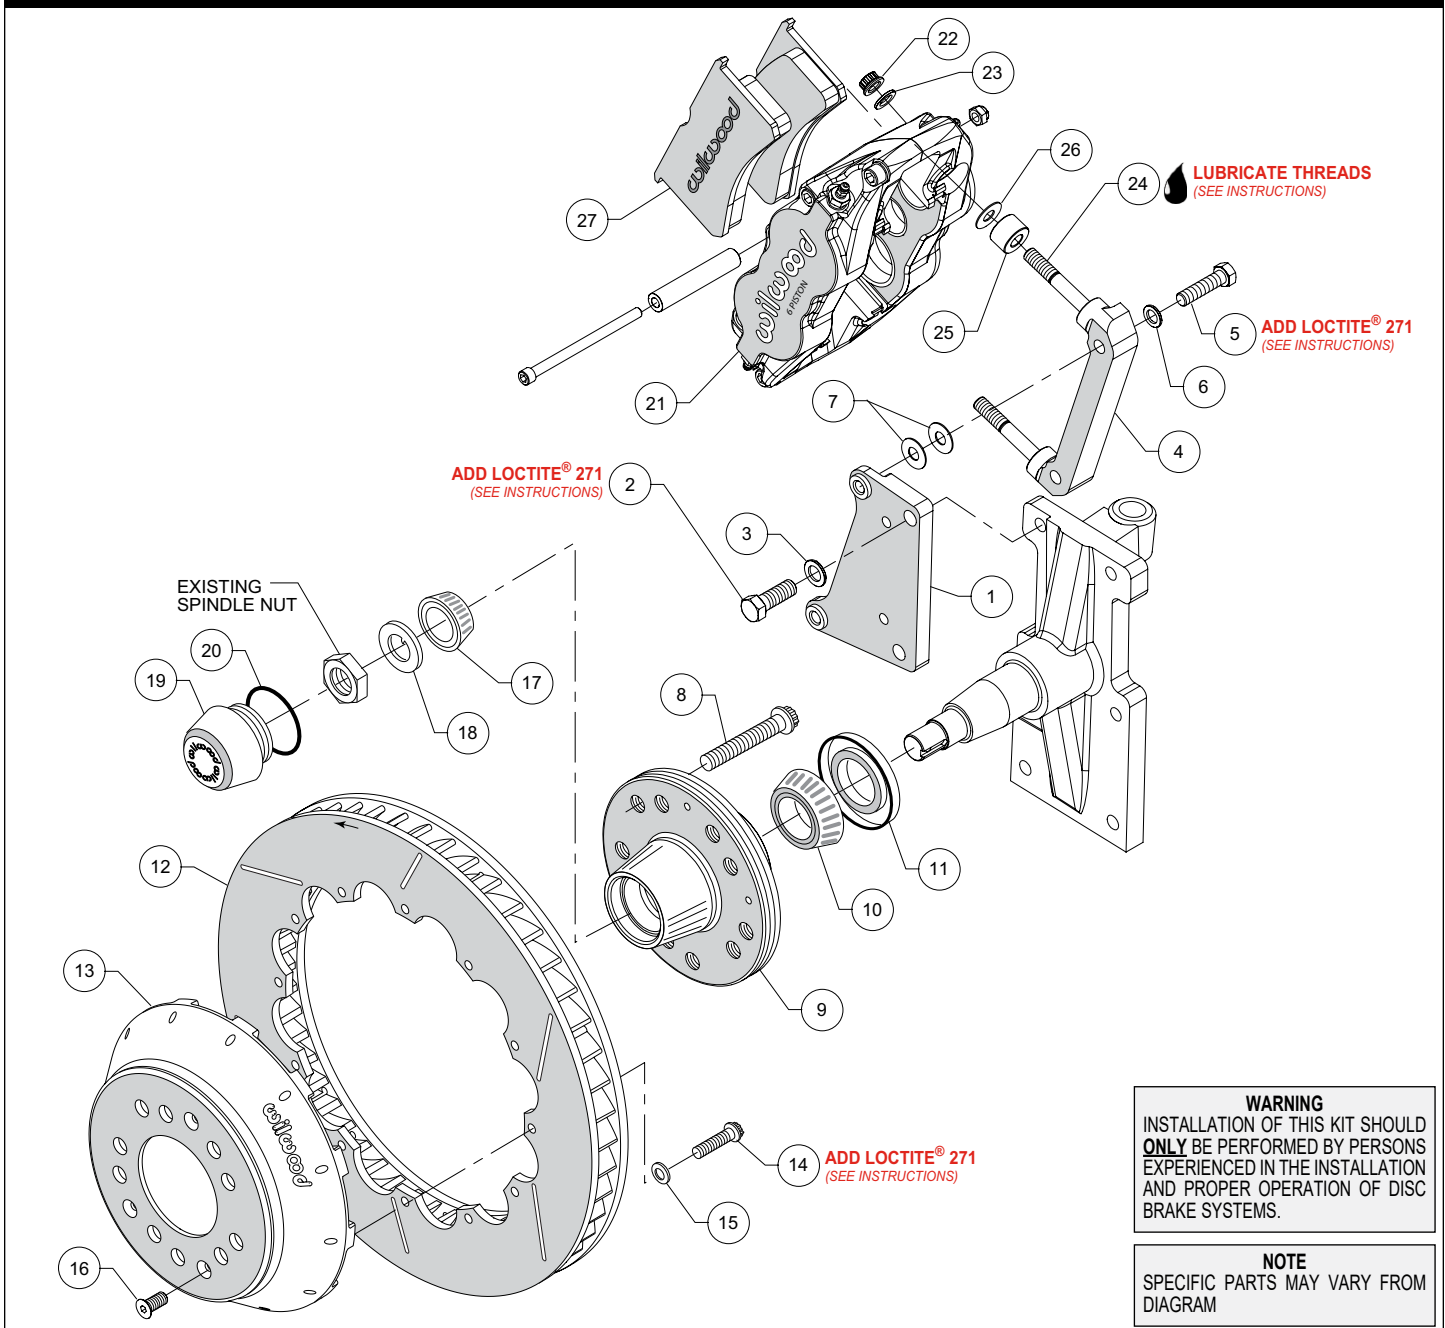
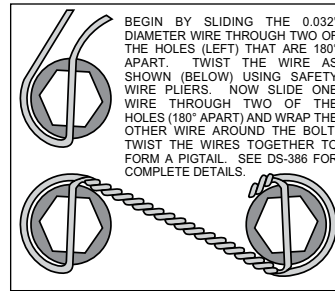
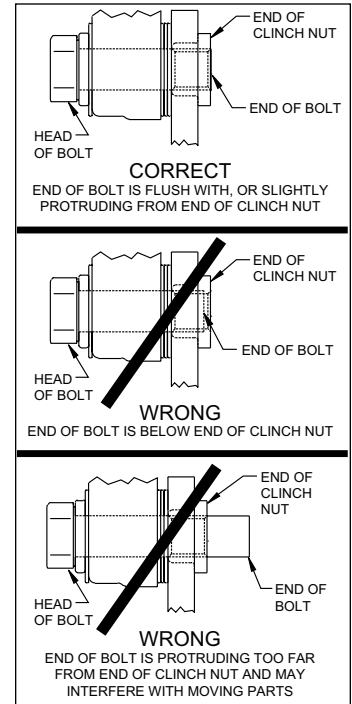

Figure 1. Typical Installation Configuration
Figure 3. Safety Wire Diagram
Figure 4. Clinch Nut Engagement Diagram
Assembly Instructions (numbers in parenthesis refer to the parts list, on the preceding page and Figure 1): **CAUTION: All mounting bolts must fully engage clinch nuts.** Be sure to check that all bolts are either flush or protruding through flanged side of clinch nut after shimming, Figure 4.
- Orient the spindle bracket (1) as shown in Figure 1 and Photo 1. Attach using bolts (2) and washers (3), Figure 1. Temporarily tighten the mounting bolts. Ensure that the flanged heads of the clinch nuts in the bracket are facing outboard, Photo 1. **NOTE: The bracket must fit squarely against the mounting points on the spindle.** Inspect for interference from casting irregularities, machining ridges, burrs, etc. Remove bolts one at a time, apply red *Loctite*® 271 to threads and torque to 55 ft-lbs.
- The caliper mount bracket (4) should initially be installed with clean, dry threads on the mounting bolts. Orient the bracket as shown in Figure 1, and install using bolts (5) and washers (6). Initially place two .035" thick shims (7) on each bolt between the spindle bracket (1) and the caliper mount bracket (4), Figure 1. Temporarily tighten the mounting bolts. Later, after the caliper alignment has been checked, the mount bolts will be secured using red *Loctite*® 271.
- Install wheel studs (8) into the hub (9), Photo 2. Torque to 77 ft-lb. **NOTE: There are two five lug patterns in the hub (5 x 4.50 and 5 x 4.75).** Ensure the correct hub stud pattern is being used to fit the wheel application.
- Pack the large inner bearing cone (10) with high temperature disc brake bearing grease (available from your local auto parts store) and install into the backside of the hub (9), Photo 3.
- Install the grease seal (11) by pressing into the backside of the hub (9), flush with the end of the hub, Photo 3.
- Orient the rotor (12) and the hat (13) as shown in Figure 1 and Photo 4. Attach rotor to hat using bolts (14) and washers (15). Apply red *Loctite*® 271 to the bolt threads and torque to 155 **in-lb** using a criss-cross pattern. For an added measure of security, the bolts may be safety wired using standard 0.032 inch diameter stainless steel safety wire as shown in Figure 3. Refer to Wilwood's data sheet DS-386 (available at www.wilwood.com/Pdf/DataSheets/ds386.pdf) for complete safety wire installation instructions.
- Pack the small outer bearing cone (17) with high temperature disc brake bearing grease and install into hub (9). Slide the hub assembly onto the spindle. Secure using spindle washer (18) and OEM spindle nut, Photo 5. Adjust bearings per OEM specifications. Install saved OEM nut lock (if any) and a new cotter pin (not included).
- Screw dust cap (19) into hub (9), Photo 6. Friction created by the o-ring (20) on the dust cap keeps it from unscrewing. **NOTE:** The O.D. of the existing OEM spindle washer may be larger than the I.D. of the dust cap not allowing it to seat against the hub face. Therefore, use the spindle washer (18) supplied with the kit instead of the OEM washer.
- Slide the hat/rotor assembly (12 and 13) onto the hub (9) taking care to align the small countersunk holes in the hat with the small threaded holes in the hub. **NOTE:** The hat must fit flush against the hub face or excessive rotor run out may result. Install three flat head screws (16) through the small holes in the hat, Photo 6, and torque to 85 in-lb.
- NOTE:** This kit contains distinct right and left hand calipers that must be mounted in a specific direction, as described below. Lubricate the caliper mounting studs (24) with lightweight oil. Initially place one .035" thick shim (26) and one spacer (25) on each stud between the caliper and the bracket, as shown in Figure 1 and Photo 7. Mount the caliper (21) onto the bracket (4) using lock nuts (22) and washers (23), Figure 1. Ensure that the caliper is mounted so the largest pistons are at the rotor exit end of the caliper, in relation to the direction of rotor rotation. Temporarily tighten the lock nuts and view the rotor through the top opening of the caliper. The rotor should be centered in the caliper, Photo 8. If not, adjust by adding or subtracting shims (7) between the spindle bracket (1) and the caliper mount bracket (4). Always use the same amount of shims on each of the two mounting bolts. Once the caliper alignment is correct, remove the bracket mounting bolts one at a time, apply red *Loctite*® 271 to the threads, and torque to 40 ft-lb.
- Remove the caliper center bridge pad retainer bolt, nut, and tube from the caliper. Insert the brake pads (27) into the caliper, with the friction material facing the rotor, as shown in Photo 9. Check that the top of the brake pad is flush with the outside diameter of the rotor, Photo 10. If not, adjust by adding or subtracting shims (26) between the caliper and the bracket. After the caliper pad height is set, torque the caliper lock nuts (22) to 30 ft-lb. Secure the brake pads in place with the center bridge pad retainer tube, bolt, and locknut, Photo 11. The locknut should be snug without play in the bolt or tube. Be cautious not to over tighten.